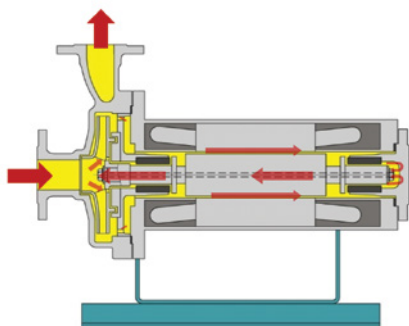

FIGURE 3. The Plan 1-S circulation, shown here, is the most common type of circulation path for a CMP
Plan 1-S Internal circulation (hol-low shaft). This is the most common circulation plan and involves a small amount of the pump discharge circulating through orifices in the pump-end (PE) bearing housing and into the motor (Figure 3). It travels through the